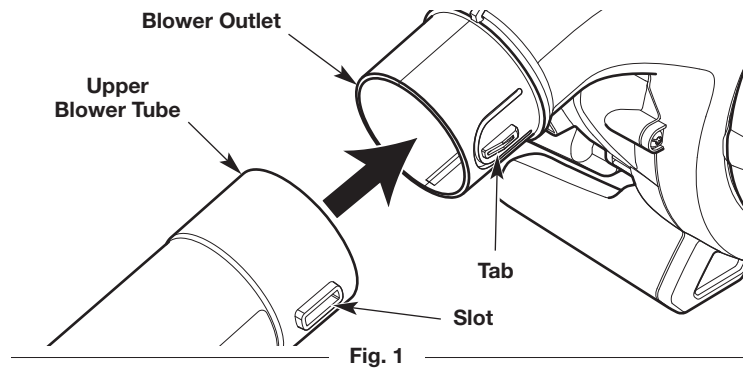

Fig. 1
2. Align the slot on the upper blower tube with the tab on the blower outlet (Fig. 1).
3. Push the upper blower tube onto the blower outlet until the tab locks securely into the slot (Fig. 1).